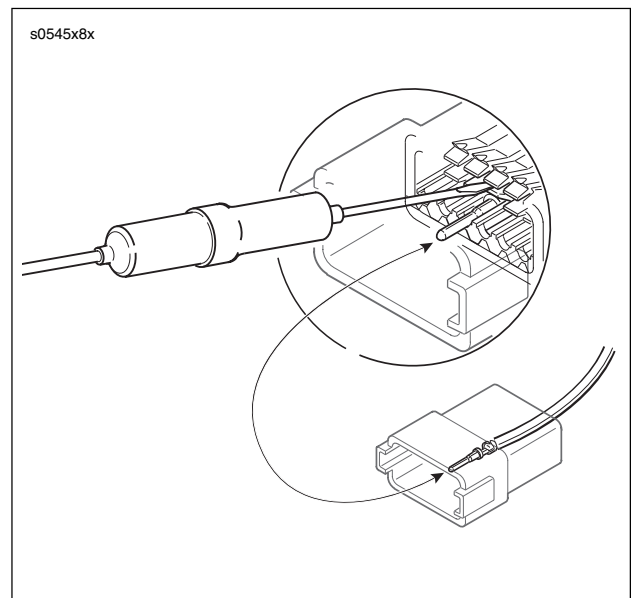

Figure B-7. Depress Terminal Latches/Back Out Pins
1. See Figure B-7. Remove the secondary locking wedge. Insert the blade of a small screwdriver between the socket housing and locking wedge inline with the groove (inline with the pin holes if the groove is absent). Turn the screwdriver 90 degrees to pop the wedge up.